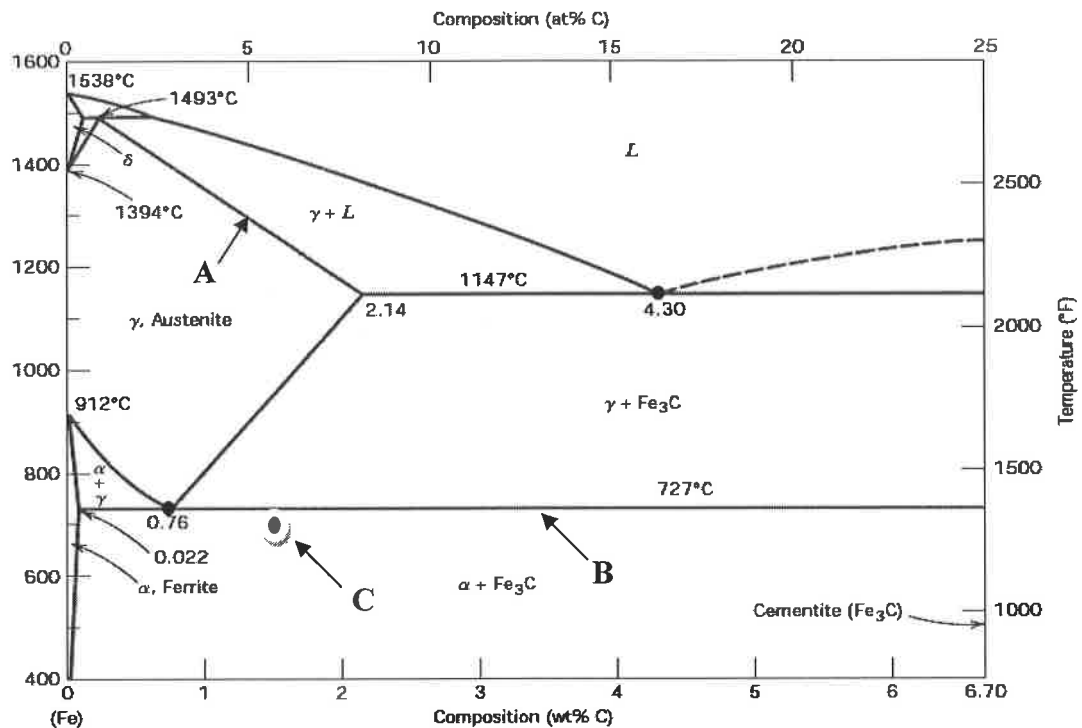

Figure 1. Fe – C Phase Diagram
- a) By referring to the Fe – C phase diagram in Figure 1, answer the following:
- iv. List **TWO (2)** characteristics of austenite phase.